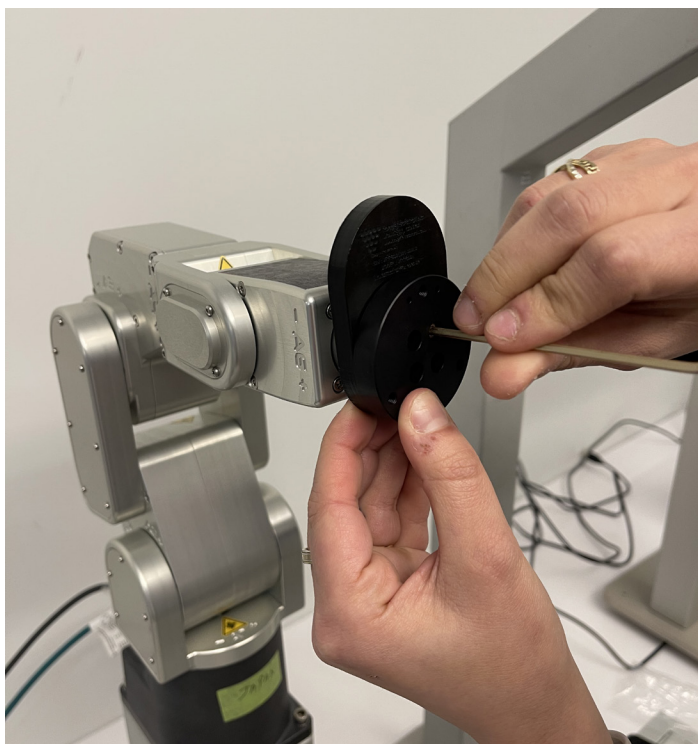

Fig. 3-15
3. Remove the existing dot pattern. Note that the dots must be facing the robot (see Fig. 3-15).